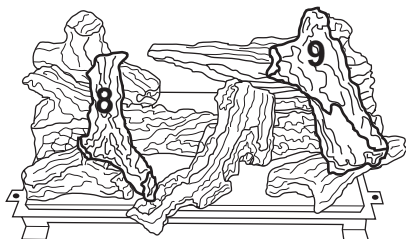

Figure 43 - Installing Logs No. 8 and No. 9
6. Rest log #8 (left crossover log) onto log #3 and rest log #9 (right crossover log) onto logs #4 and #5 as shown in Figure 43.